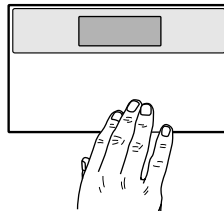

Fig. 18 Mounting thermostat on subbase.
- 1 Engage tabs at the top of the thermostat and subbase. Fig. 18.